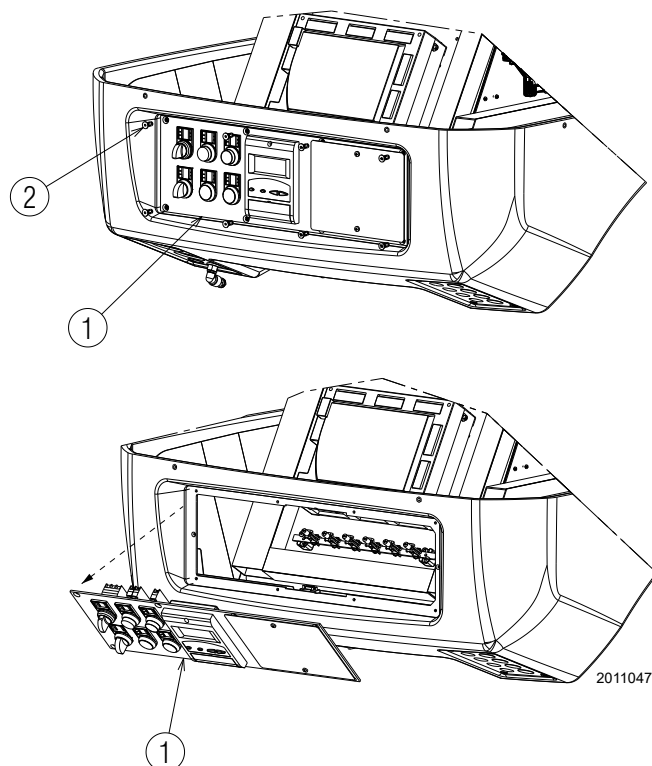

Fig. 55
- unscrew the screws 2)(Fig. 55) of the control panel 1);
To calibrate the speed sensor 1)(Fig. 55), proceed as follows:
Key (Fig. 55)